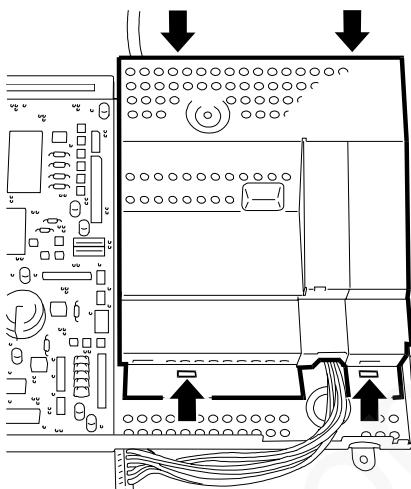

Fig. 7-20
- 2) Remove screen **S** releasing it in the points indicated by the arrows (Fig. 7-20):